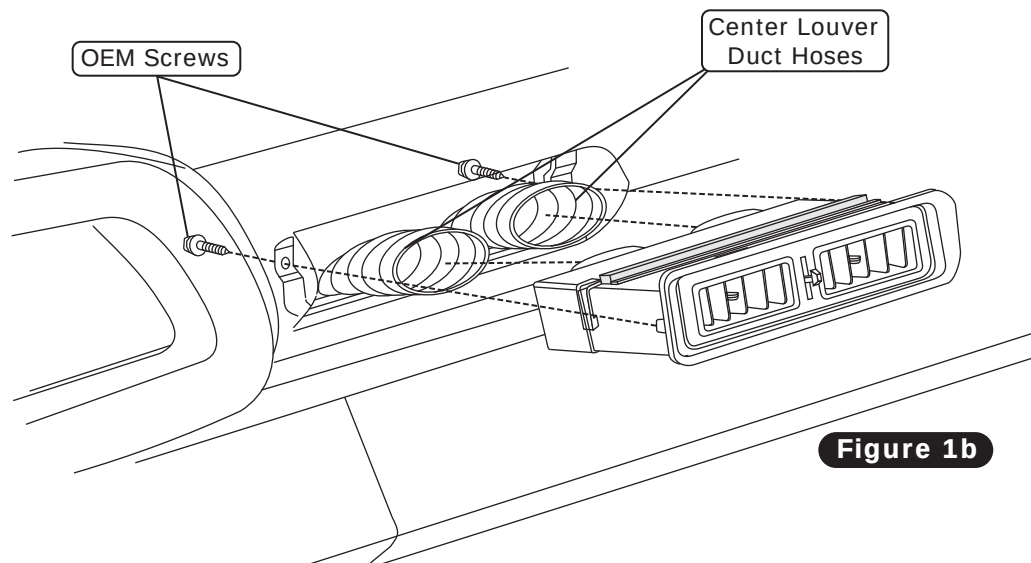

Figure 1b
5. Pull center louver duct hoses through dash and attach to center louver duct hose adapter as shown in Figure 1b, below.
6. Install center louver assembly into dash, using OEM mounting screws to secure louver assembly to dash (See Figure 1b, below).